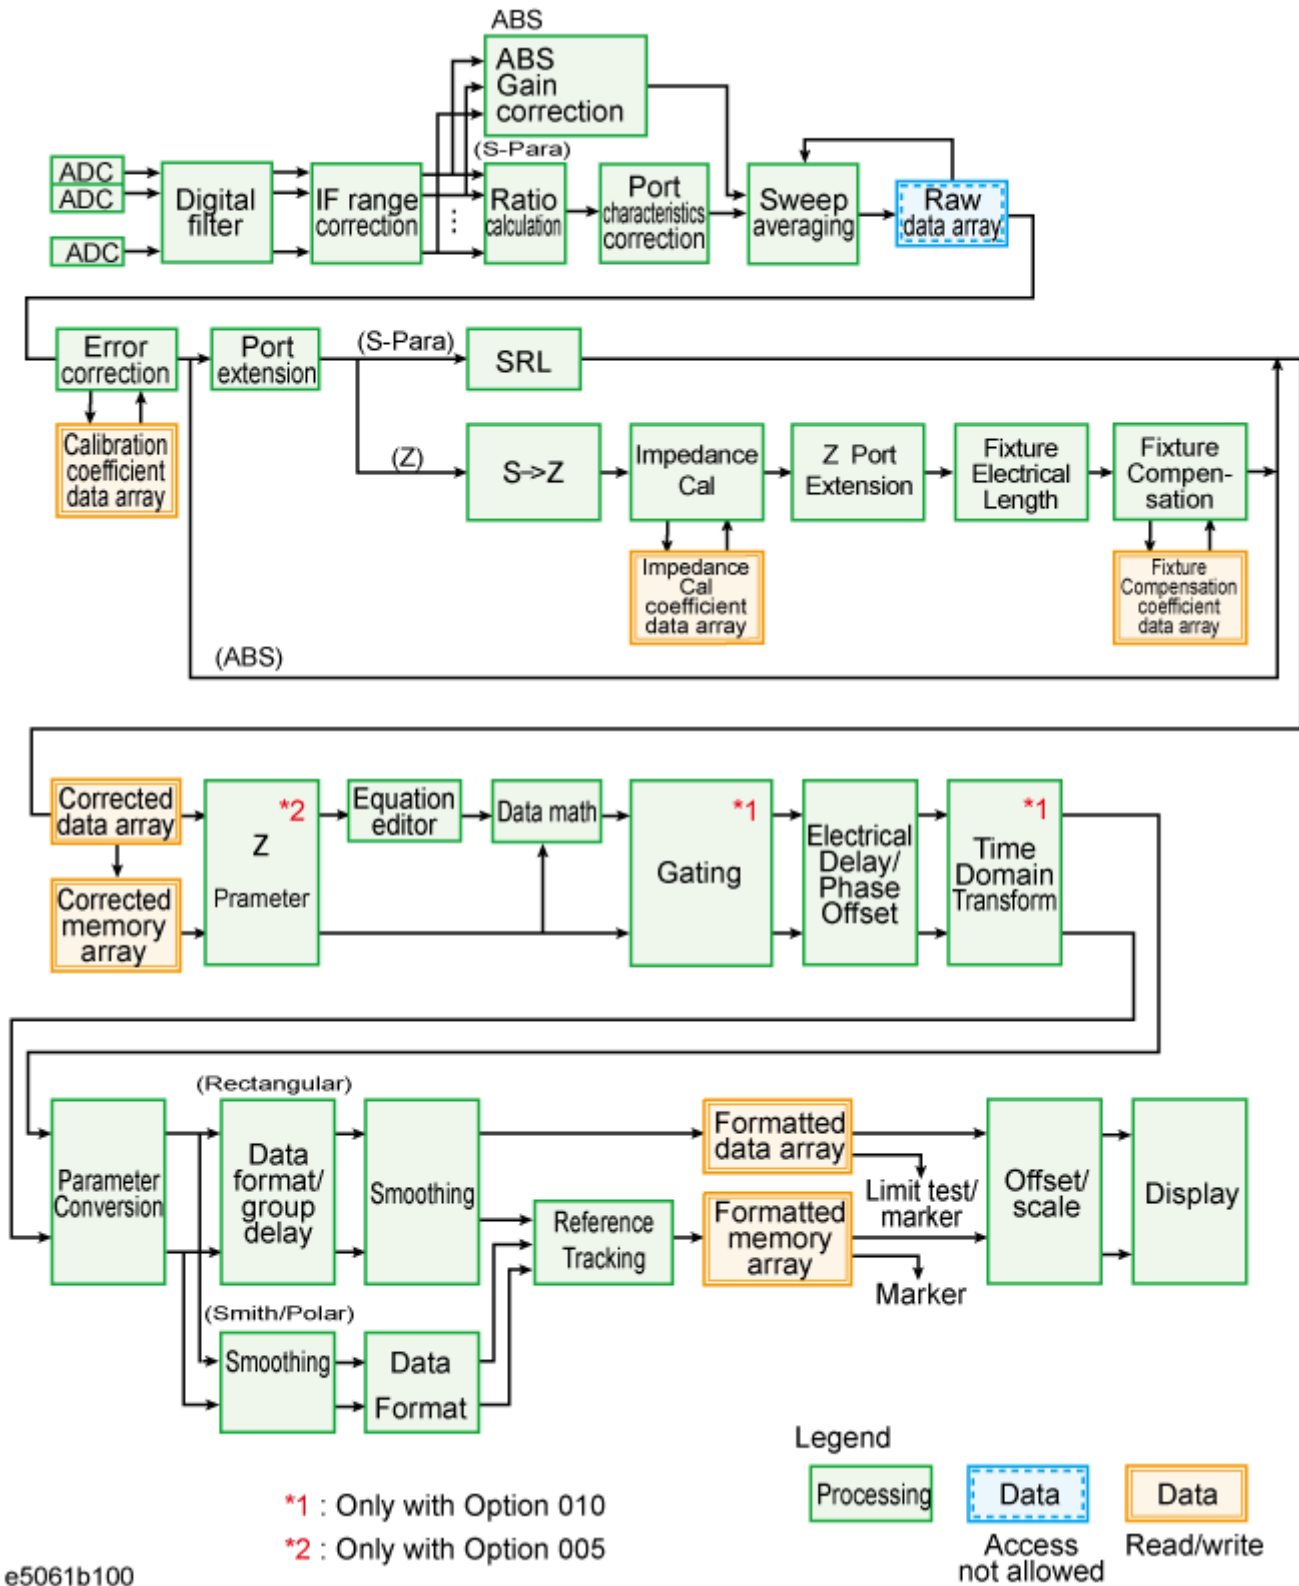

Figure 2. Data processing flowchart
- ⑥ Select the Contents from the following.
- ⑦ Select the array type to be saved (Multiple selections are available).
- Formatted Memory: Formatted memory array.For detail, refer to Figure 2 “Data processing flowchart”, and “Data processing” in E5061B online help.
- ⑧ Save the data. After saving is done correctly, program is ended with the beep sound.